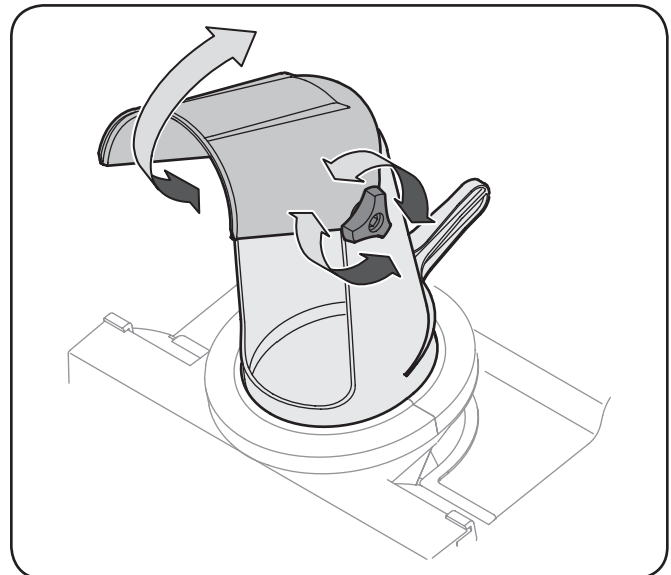

Figure 5-2
1. Loosen the wing knob found on the left side of the chute assembly and pivot the upper chute upward or downward to the desired pitch. Retighten the wing knob before operating the snow thrower. See Figure 5-2.